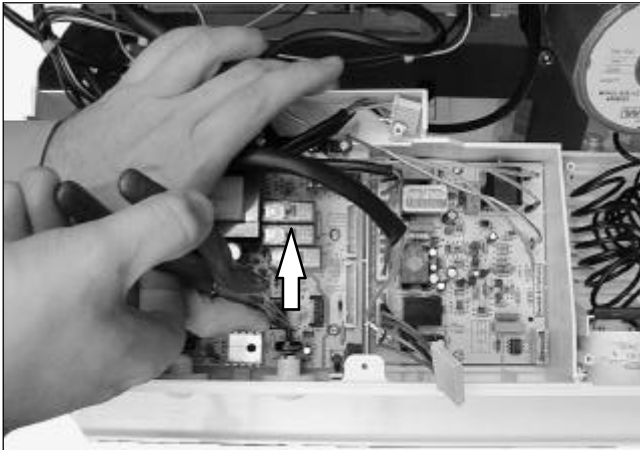

Fig. 36
- 3 Remove the spindles of the c.h. and d.h.w. temperature adjustment knobs by delicately pulling them with pliers in the direction shown by the arrow in Fig. 36.